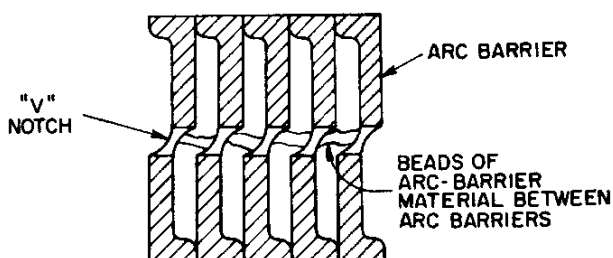

Fig. 21. Arc barriers with connecting beads
2. The vanes should be checked for continuous beads resulting from the gutting which makes a continuous path across more than a few vanes (3) of the arc chute. (see Fig. 21). These beads offer a current-conducting path which reduces the length of the interrupting arc. Any vanes with the continuous bead between them must be replaced.